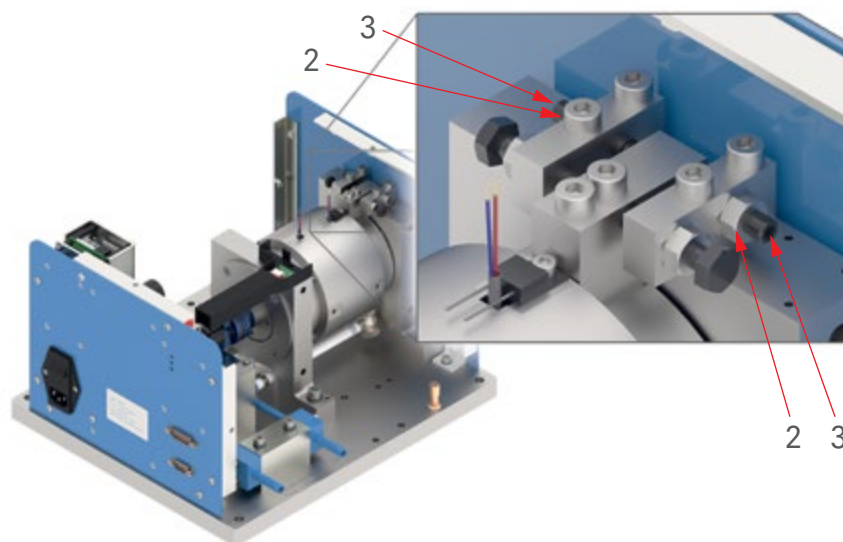

Fig.7-7 Unlocking procedure; release the dynamometer movement
7. Slightly unscrew the two nuts (2) while holding the screw (3) in position (see Fig.7-7).